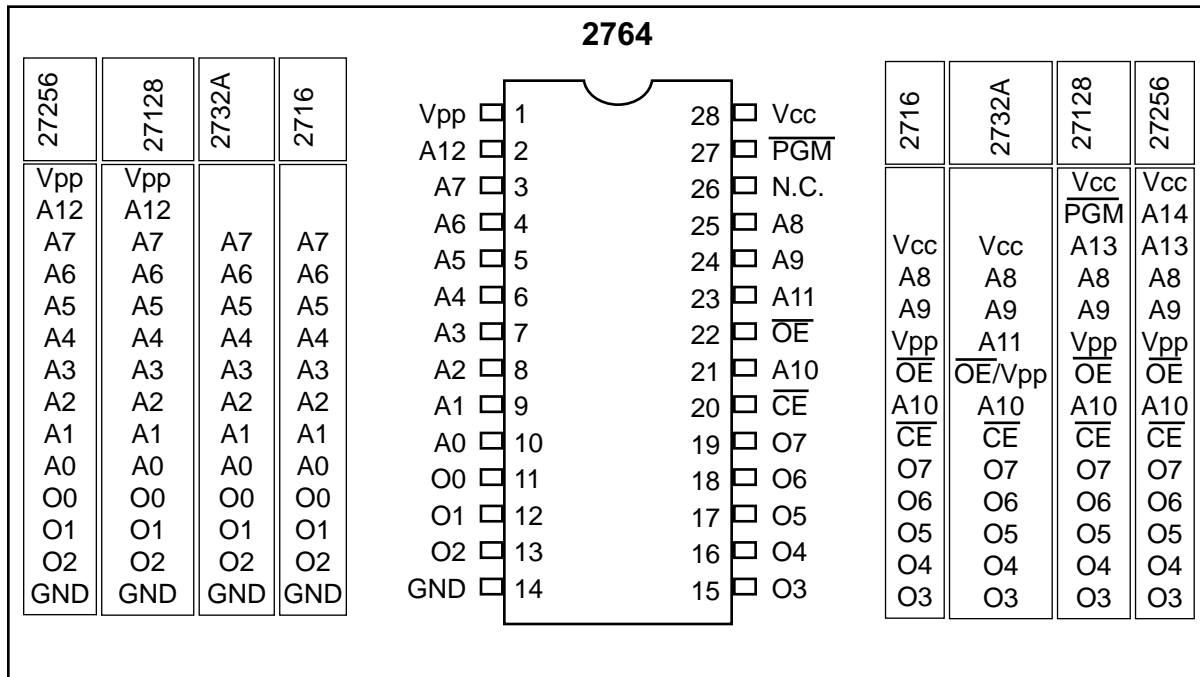

Figure 10. Pin Configurations for 27xx ROM Family
EPROM was invented to allow making changes in the contents of PROM after it is burned. In EPROM, one can program the memory chip and erase it thousands of times. This is especially necessary during development of the prototype of a microprocessor-based project. A widely used EPROM is called UV-EPROM, where UV stands for ultraviolet. The only problem with UV-EPROM is that erasing its contents can take up to 20 minutes. All UV-EPROM chips have a window through which the programmer can shine ultraviolet (UV) radiation to erase the chip's contents. For this reason, EPROM is also referred to as UV-erasable EPROM or simply UV-EPROM. Figure 10 shows the pins for UV-EPROM chips.